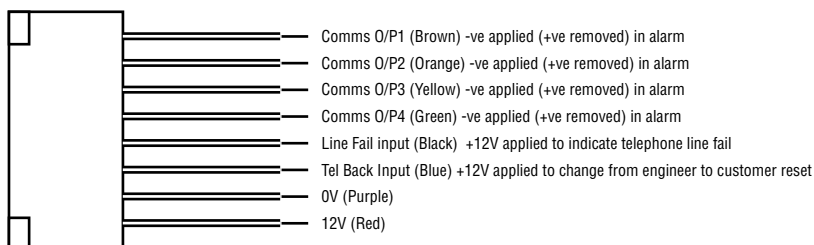

Figure 19. Communications Wiring Harness.
2. Make any necessary connections from the communicator to the Comms Wiring Harness. Figure19 shows the outputs available on the free ends of the Comms Wiring Harness.